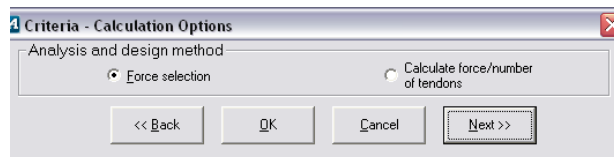

FIGURE 4.2-15
4.2.5.3 Select The Post-Tensioning Design Option (Fig. 4.2-15, 16)
The two design options are “Force Selection” and “Calculate force/number of tendons” as in **Figure 4.2-15**. “Force Selection” is the default option.